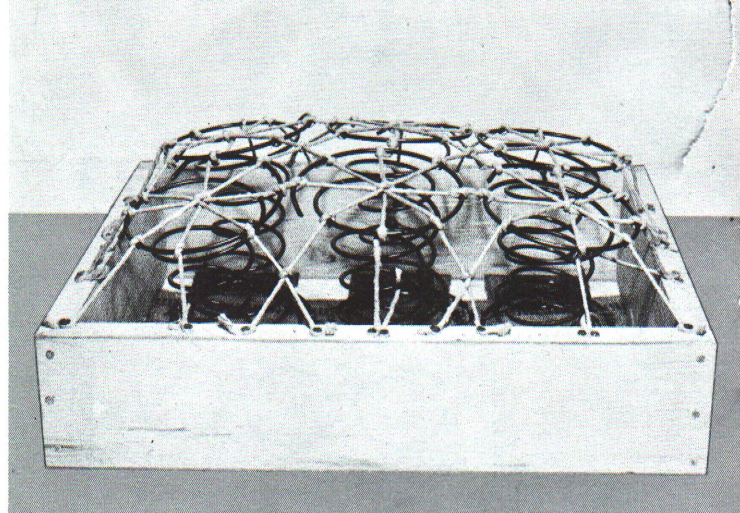

Fig. 20—Springs tied for a rounded seat.
**Round seat**—For a rounded seat top a return tie is usually not used. For this kind of seat all springs are tied directly to the top coil (Fig. 20). Cut length of tying twine from  $1\frac{1}{2}$  to  $1\frac{3}{4}$  times the distance across the seat. Tack one end of twine to the back of the seat frame as in Fig. 15A. As you loop the twine around the top coil of the first spring, press the spring down to the height of the seat frame. (It will be higher when released). Hold the spring in position while you complete the knot. Tie the top coil of the same spring on the opposite side. When tied, all springs should stand straight (not pulled to one side), but the top coil of the spring next to the rail will tip slightly toward the rail. (Fig. 20).
Continue to tie other springs in the same row across the chair as you did the first one (Fig. 20). Have another person press springs down to the proper level as you tie them. Springs will be about the same distance apart at the top as at the bottom. The length of twine you leave between the springs determines the height of the finished seat. Be guided by the height of the original seat. Too much twine lets the springs stand too tall. If springs are tied too low, the seat is too hard. At the opposite side of the chair tack the twine to the seat frame as in Fig. 15B. Study spring height and make needed adjustments before you tack twine permanently.